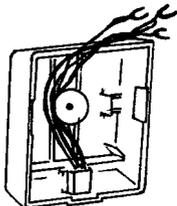

FIGURE 4. 625C Connecting Block Conversion
2.06 **625C Conversion Cover for 42A Connecting Block (Figure 4):** This jack consists of a cover and jack assembly which fits over an existing 42A connector block, making it compatible with the modular system. The jack has spade-tipped leads which are connected to the existing screw terminals on the 42A block.